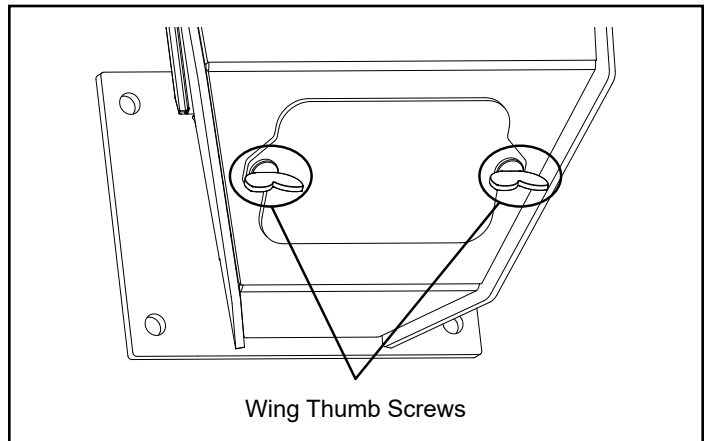

Figure 2.4
- Loosen the (2) wing thumb screws on the lower front angle of the burn pot. Figure 2.4
- Lift off the clean-out cover to open the bottom clean-out chamber. Figure 2.4